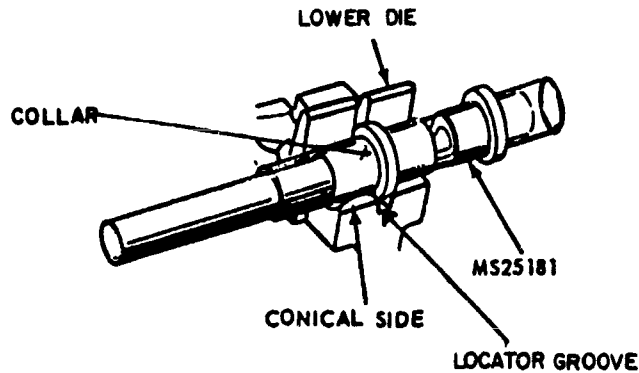

Figure 6.
e. Select a splice connection. Put it in the crimping tool, so that the collar of the splice connection is in the locator groove (figure 6). Be sure that the side of the splice to be crimped is on the conical die side of the locator groove in the upper nest.